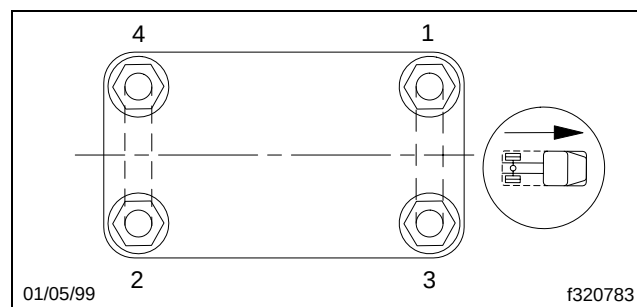

Fig. 4, U-Bolt Nut Tightening Sequence
- 21.3 Replace the second U-bolt on the left side, and evenly tighten the U-bolts 60 lbf·ft (81 N·m) in the sequence shown in **Fig. 4**.